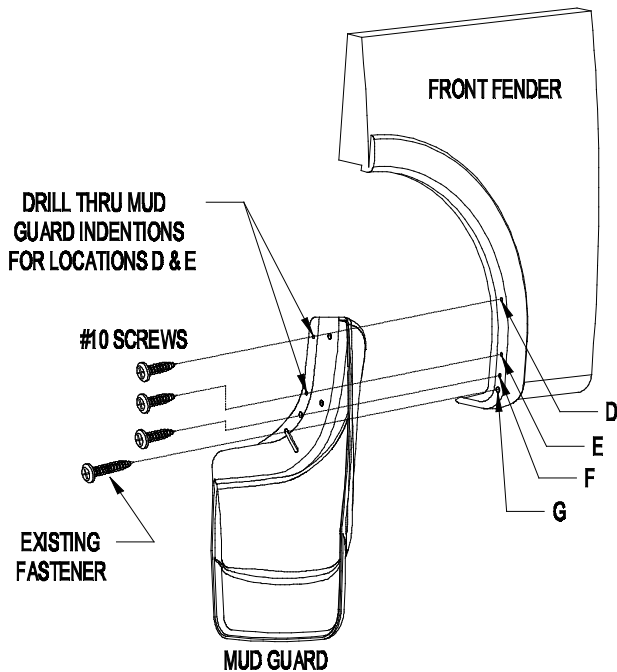

Figure 1
2. Remove existing fastener from location G and attach mud guard with existing fastener at location G (Figure 1), check fit and alignment before tightening.